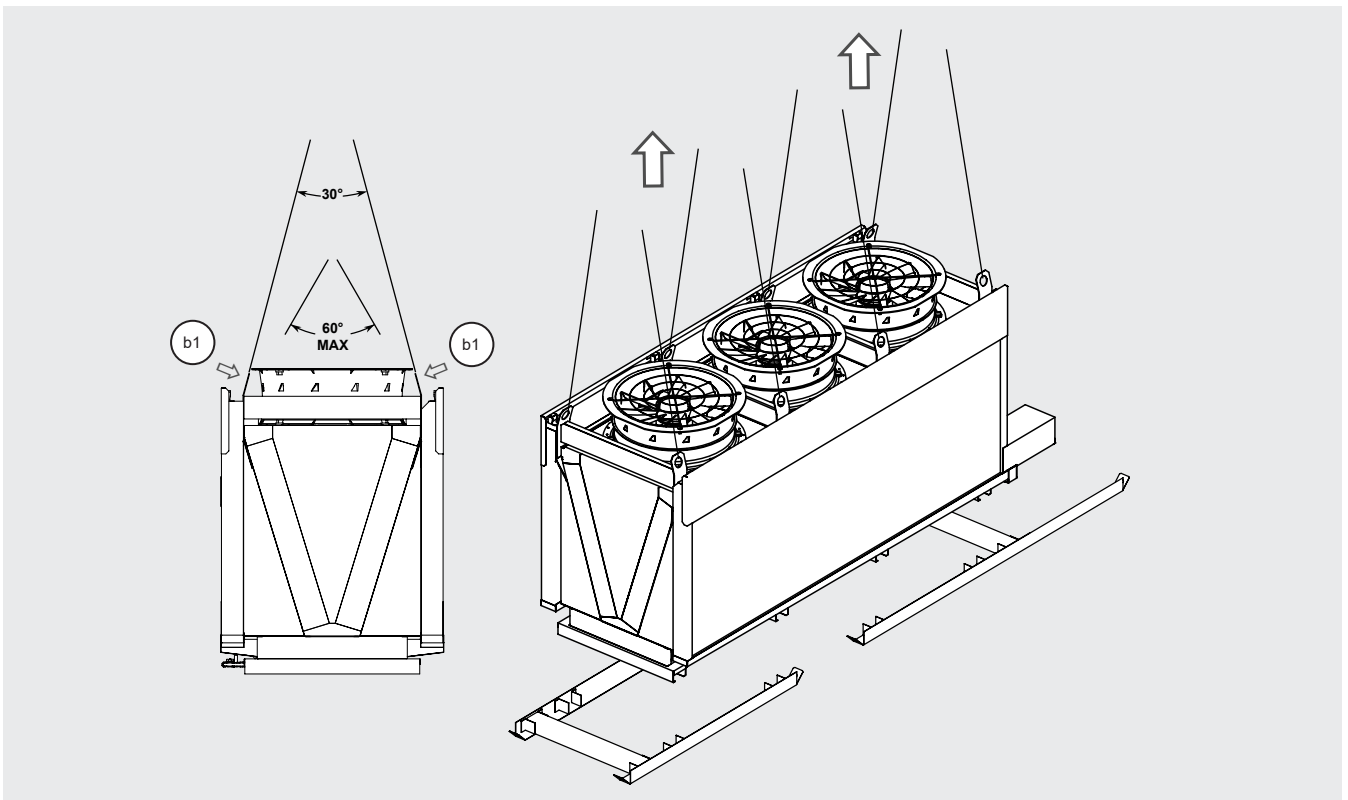

Figure 7
- 5.5 Attach the crane to lifting points (b1), lift the model and place it in its final location. Use all lifting points, see Figure 7.